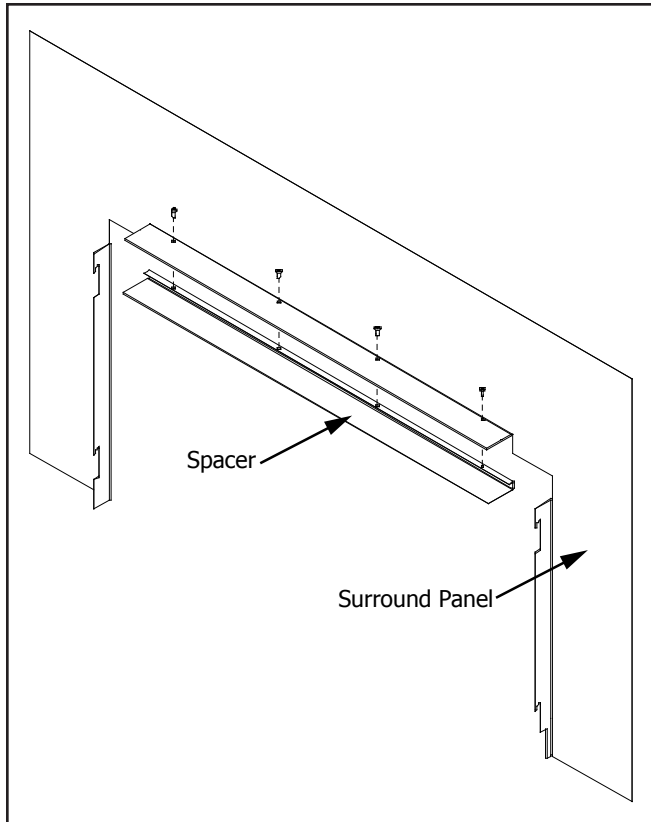

Figure 19: Installing Spacer onto Surround Panel.
1. Fasten the Surround Spacer to the inner top surface of the Surround Panel using the four (4) T-20 screws (refer to Figure 19).